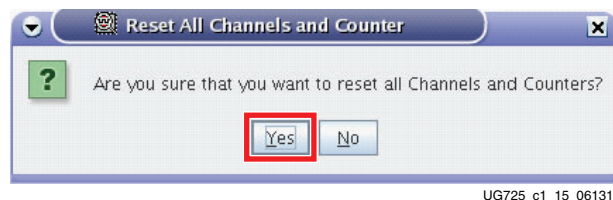

Figure 1-15: Reset Confirmation Dialog Box
5. When the confirmation dialog box opens, click **Yes** (Figure 1-15).